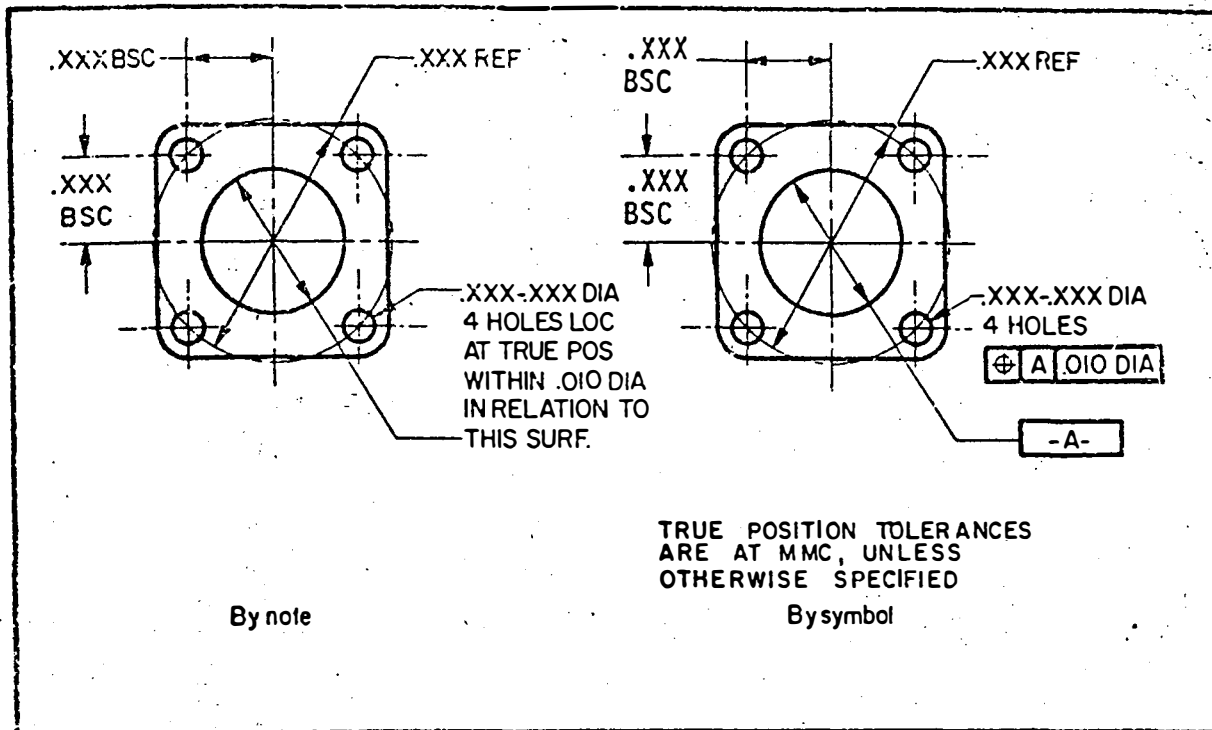

FIGURE 4
1. By including in the true position note or symbol a reference to the datum(s). See Figures 4 and 5.